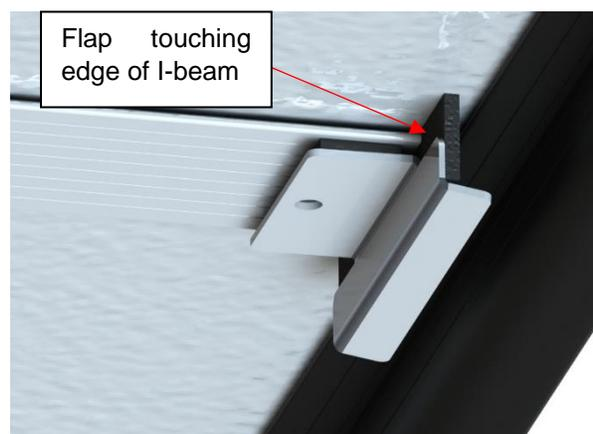

Figure 101
- 4) Stick the wiper bracket on the middle of the I-beam by holding it in place with pressure for at least 60 seconds. This ensures a proper bond to the I-beam. **Ensure to place the wiper bracket flap at the edge of the I-beam directly into the gap between the I-beam and the C-channel.** (Figure 101)